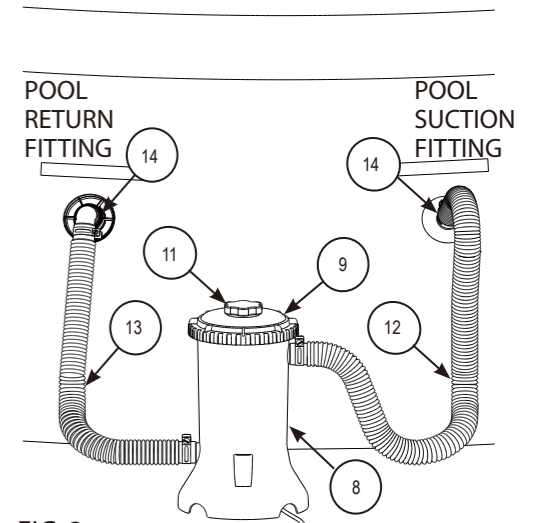

FIG. 3
B. Get the Suction and Return Hoses (12, 13), and remove two Hose Clamps (14), from the hardware bag. Loosen the hose clamps and slide them over one end of each hose. Lubricate O-rings (24) on the Filter Case (8) and Volute Housing liberally with petroleum jelly. Install one hose on the filter case suction inlet at the top, and one hose on the filter case return outlet at the base. Tighten both of the Hose Clamps (14).
C. Locate the Return Fitting assembly parts (21, 25-31). Lubricate the (black) RF Gasket (26) liberally with petroleum jelly and install it over the threads on the Return Fitting (25). Insert the Return Fitting (25) with the RF Gasket (26) through the pool return fitting hole in the wall from the inside of the pool, see Fig. 3 for correct location. Place the (white) RF Thrust Washer (27) over the Return Fitting and then thread the RF Nut (28) onto the fitting until it is hand tight. DO NOT over tighten the RF Nut or wrinkle the pool wall around the RF Thrust Washer (27) or the RF Gasket (26). Plug the pool's Return Fitting (25) with the RF Plug (21) from the inside of the pool. Set the RF Diverter Fitting (30) and RF Locking Ring (31) aside for later installation. Now locate the Pool Suction Fitting assembly parts (16-20). Lubricate the (black) SF Gasket (17) liberally with petroleum jelly and install it over the threads on the Suction Fitting (16). Insert the Suction Fitting (16) with SF Gasket (17) through the pool suction fitting hole in the wall from the inside of the pool. Place the (white) SF Thrust Washer (18) over the Suction Fitting and then thread the SF Nut (19) onto the fitting until it is hand tight. DO NOT over tighten the SF Nut or wrinkle the pool wall around the SF Thrust Washer (18) or the SF Gasket (17). Cap the pool's Suction Fitting (16) with the SF Water Cap (20). Only hand tighten the Water Cap (20). Start filling pool.
D. After the pool is filled, position the Filter Assembly between the two fittings on the side of the pool, about 6 inches out from the base. The suction hose (12), coming from the top of the filter case should be facing the right, and the return hose (13) coming from the pump, on the lower side of the case, should be facing the left; see Fig. 3.
E. Slip both of the remaining Hose Clamps (14) over the ends of the two hoses. Lubricate O-rings (24) on the wall fittings liberally with petroleum jelly then connect the hoses to the Suction and Return wall fittings located on the side of the pool. The Pool Suction Fitting is on the right, and the return fitting is on the left, see FIG. 3. Secure both of the hoses in place by tightening the two Hose Clamps (14).
F. Unscrew the Vent Screw (11) from the Seal Top (9) about 1-1/2 turns. NOTE: VENTING THE SYSTEM IS NECESSARY FOR AIR TO ESCAPE AS THE FILTER CASE FILLS WITH WATER.
G. Remove the RF Plug (21) from the return fitting (25) on the inside of the pool. Also remove the SF Water Cap (20) from the Suction Fitting (16). This allows the filter system to fill with water. DO NOT discard the RF Plug (21) and the SF Water Cap (20). You will need them when you change the Filter Cartridge or service the pump. When full, water should be coming out of the groove of the vent screw. Hand-tighten the vent screw into the seal top until the O-Ring seals around the screw and no more water is escaping.
H. At this point, the filter system should be water-tight. Check all hoses and fittings, as well as the vent screw, to make sure there is no leakage. If any leaks are found, see #4 in Trouble Shooting guide on page 8. Now place the RF Diverter Fitting (30) and the RF Locking Ring (31) on the Return Fitting (25).